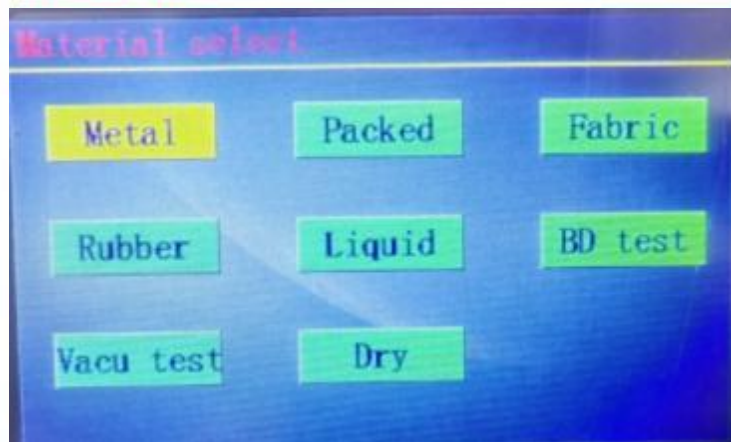
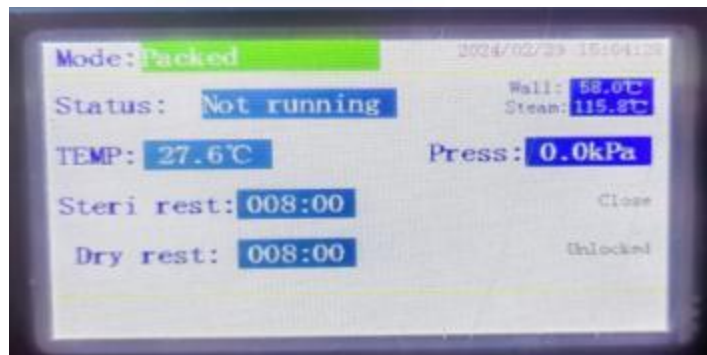

Figure 10
Figure 11
B. Enter the main selection interface as shown in Figure 9, then select "Mode Selection" and confirm, the interface will switch to the mode in Figure 10 Switch interface. In this interface, you can select the corresponding sterilization mode according to the characteristics of the sterilized items. Sterilization modes include: bare Devices, packaging devices, fabric hollows, rubber products, liquid mode, BD mode, article drying, etc.
If the "Packaging Instruments" mode is selected in Figure 10, the interface will switch to the sterilization state of the "Packaging Instruments" mode.state, as shown in Figure 11.